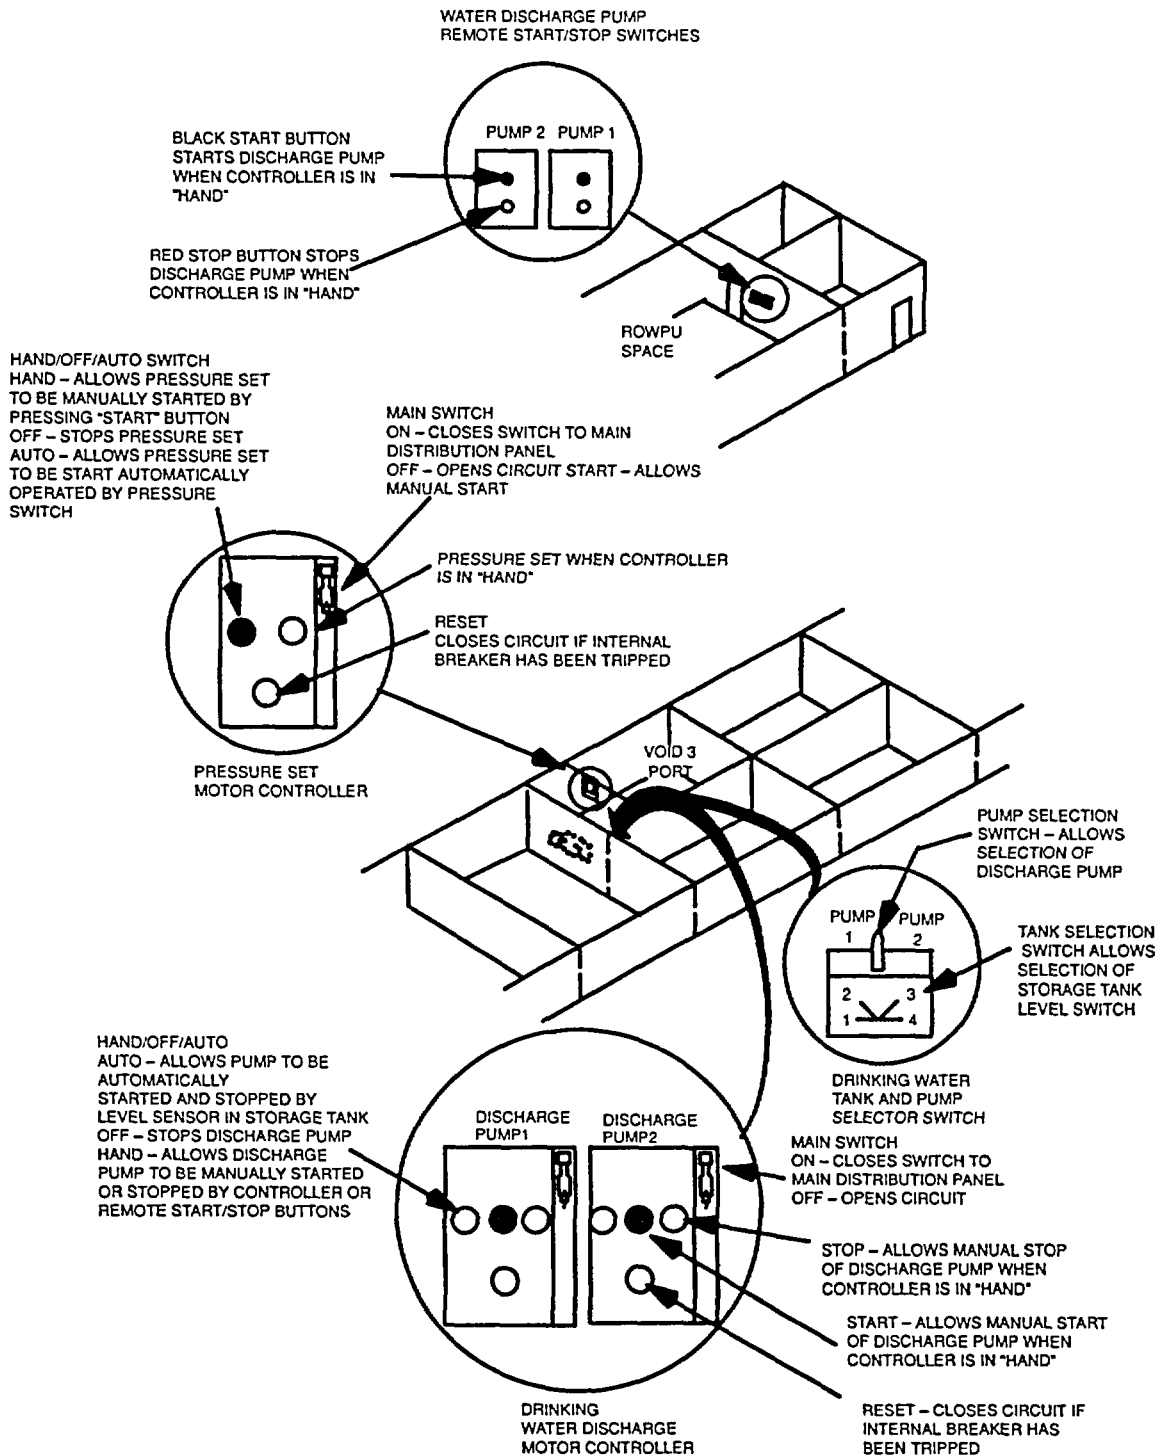

Figure 14-5. Drinking Water System Electrical Controls
- f. On drinking water tank and shore discharge pump selector switch (Figure 14-5), position switches as follows:
- (1) Set pump selector switch to pump 1 or pump 2.
- (2) Position tank selector switch (Figure 14-5) to number 1, 2, 3, or 4 tank to be drained. High and low level switches on liquid level indicator (Figure 14-6) of tank selected then automatically start and stop pump selected in step 1.
- (3) Close switchboard circuit breaker P9 for shore discharge pump 1, or circuit breaker P15 for shore discharge pump 2.
- g. On discharge pump motor controller of pump selected in step f(1), close main switch (Figure 14-5) to ON. Then position HAND/OFF/AUTO switch to AUTO.
Tank(s) are manually drained when motor controller HAND/OFF/AUTO switch is on HAND. Discharge pump is started or stopped by pushing START or STOP button on motor controller or pushing START or STOP button on ROWPU space remote START/STOP switch (Figure 14-5) on ROWPU space forward bulkhead.